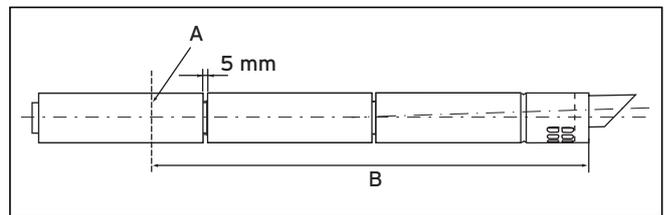

Fig. 2.9 Air duct
- For ease of measuring and marking the air/flue duct extensions, assemble them loosely together with the air/flue duct and terminal assembly as shown (fig. 2.9).